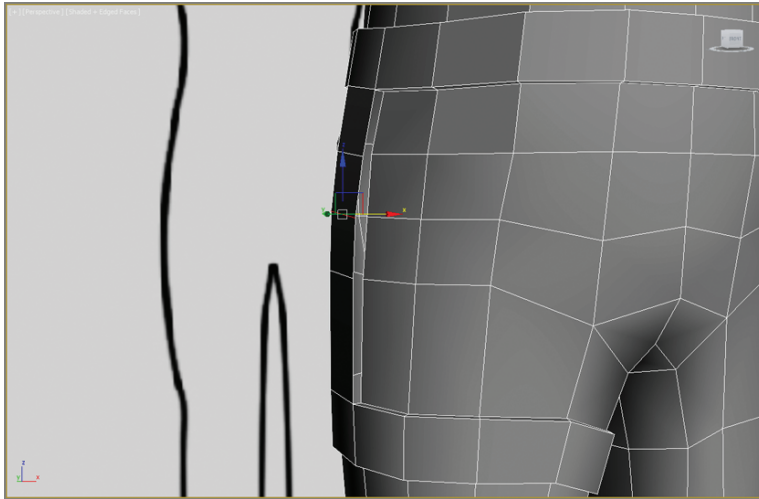

FIGURE 8.16 Select and move the edges from the bridge so they line up with the contour of the soldier's body.
10. Select and move the newly created edges so they line up with the contour of the soldier's body, as shown in Figure 8.16.